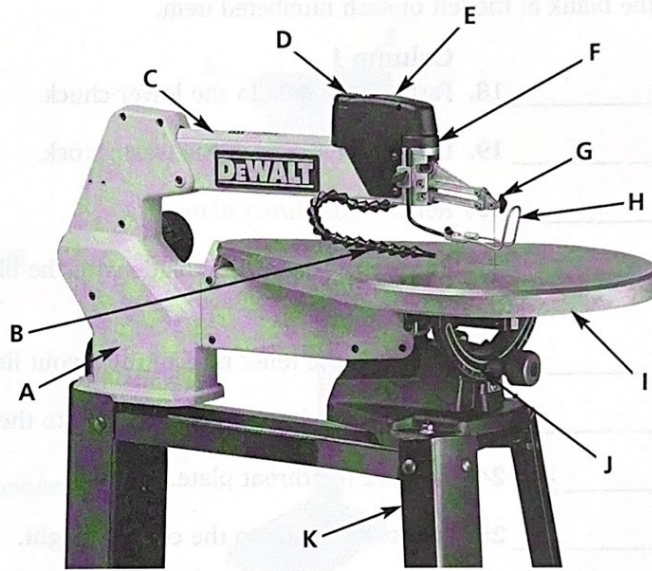

Fig. 26-1
**Directions:** Identify the parts of the scroll saw shown in Fig. 26-1. On the line next to the name of each part, write the letter from the illustration that shows the part.